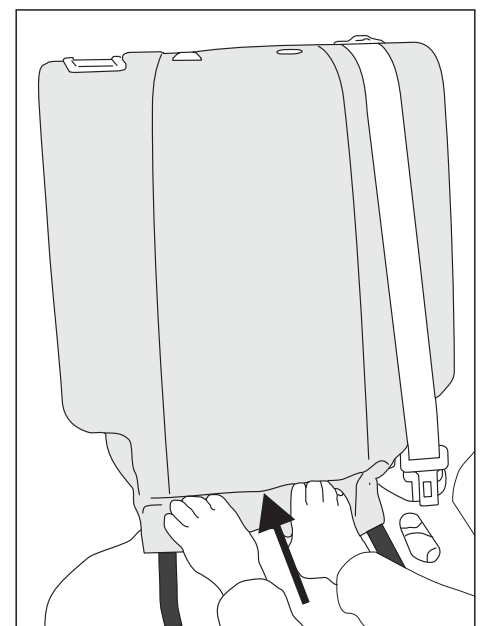

Fig. 4
4. For best fitment, work the backrest evenly and keep it aligned to the seats contours at all times. Once aligned, fold backrest forward and push the middle parts of the backrest cover through in between the seat backrest and base. (Fig. 4)